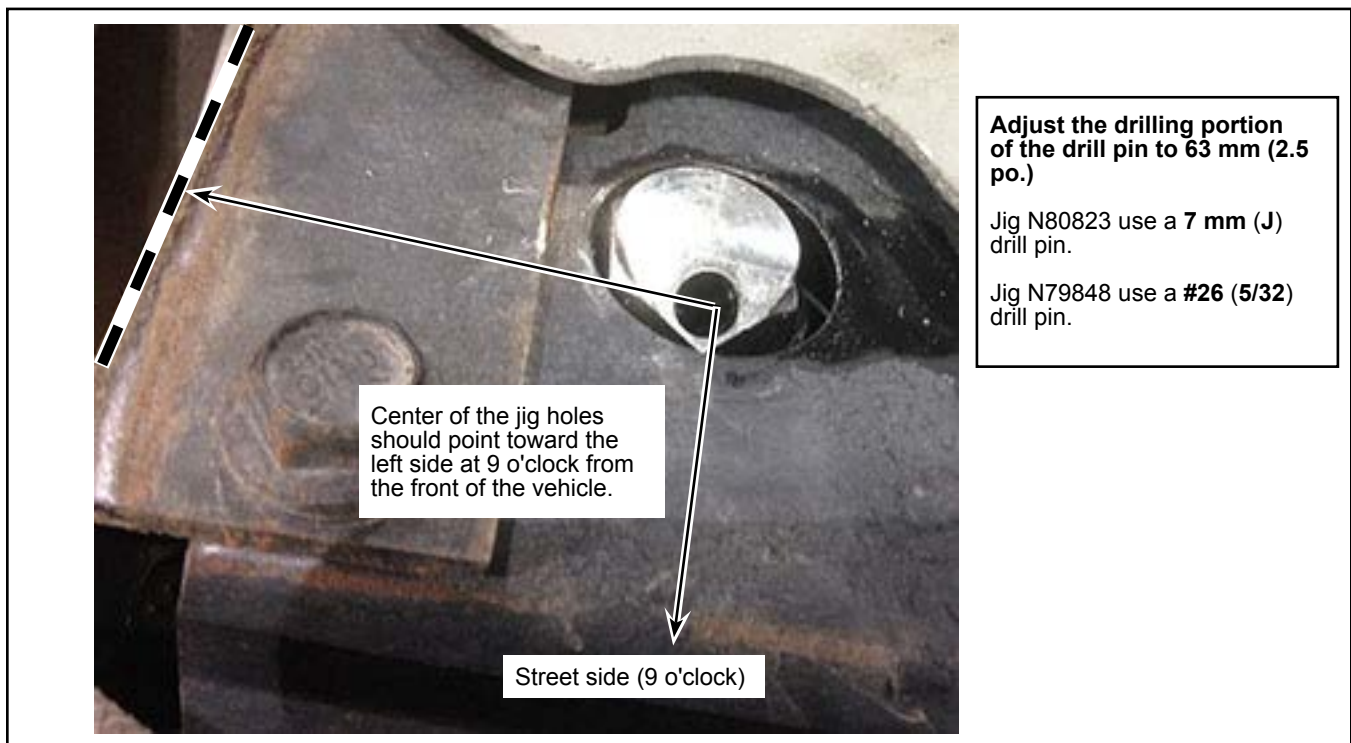

Figure 7 - Position of Drilling Jigs N80823 and N79848
- 1.15. Install and position the drilling jigs. See Figure 7 for jig position